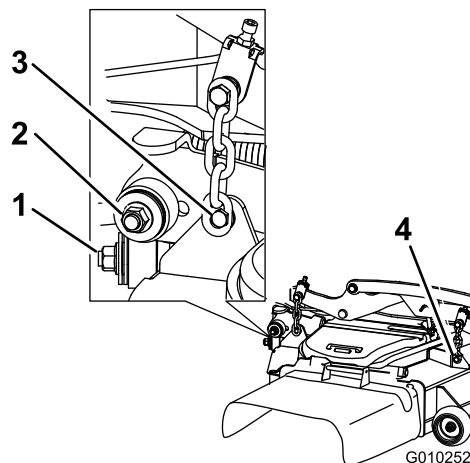

Figure 102
7. Remove and retain the hardware on both sides of the deck as shown in Figure 102.